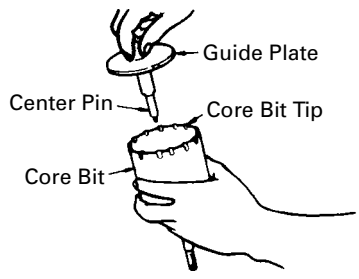

Fig. 16
- (3) Insert the center pin into the guide plate until it stops.
- (4) Engage the guide plate with the core bit, and turn the guide plate to left or right so that it does not fall even if it faces downward. (Fig. 16)